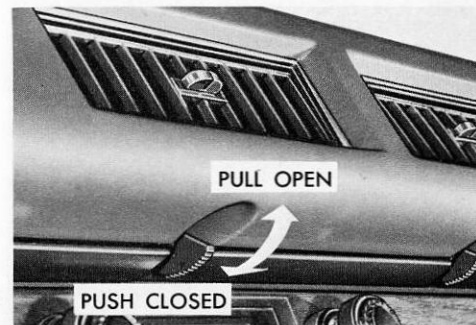

FIG. 2-17: DASH OUTLET CONTROL
- Dash outlets may be individually shut off by moving the control knob (below the outlet) forward, Fig. 2-17.